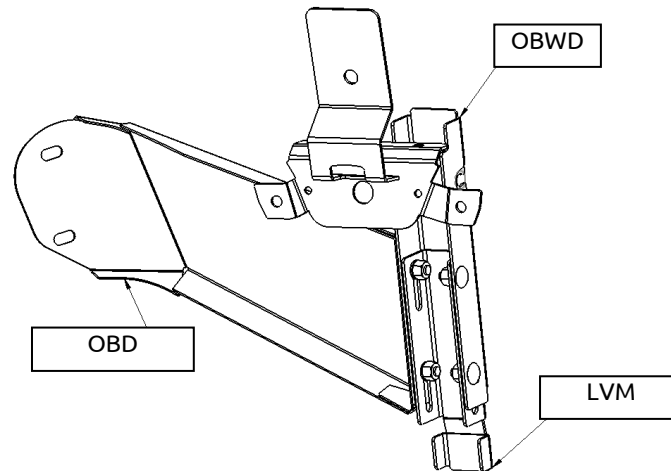

Figure 5
- iii. Place OBD on the driver's (outer) side of the OBWD and the OBP on the passenger (outer) side of OBWP and assemble using (4) ¼-20x5/8 carriage bolts, locknuts, and flat washers (see figure 5).